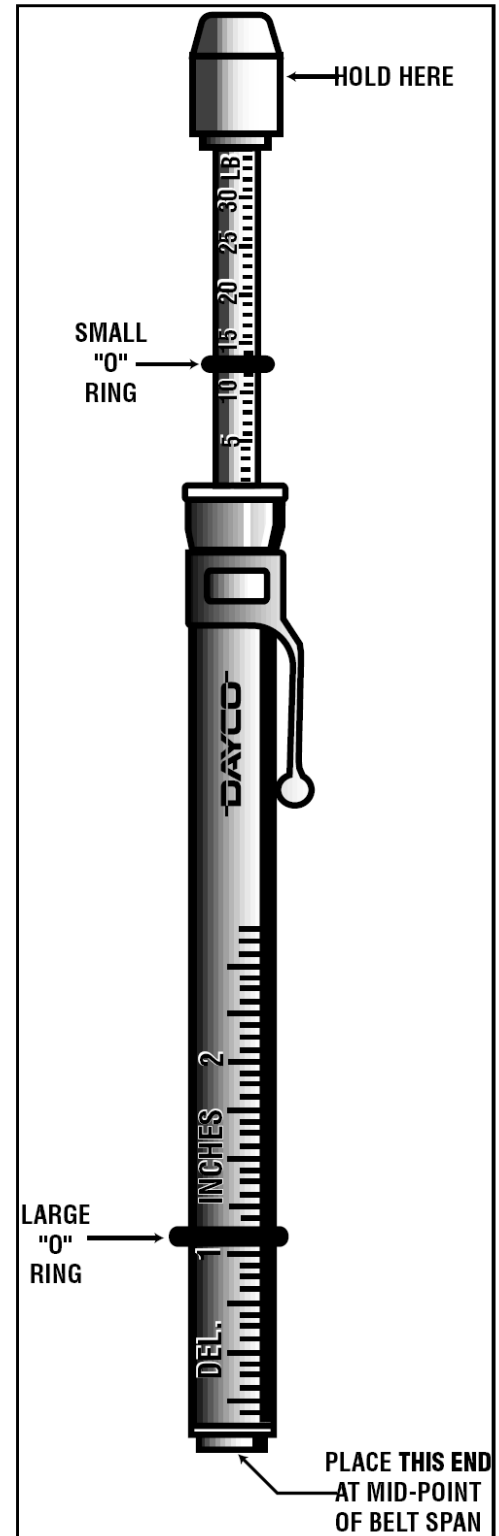

Figure 28 V-BELT TENSIO METER
2. Set the small "O" ring at zero and press down the Dayco Tensiometer at the center of the belt span (See Figure 28).